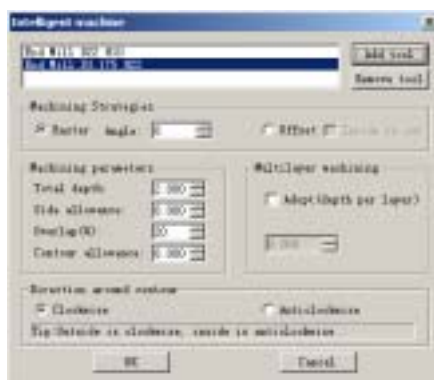

Fig. 12-54
9. Select all the symbols, and click on the shortcut icon  on Tool Path Bar or select Tool path->Intelligent machining command in the menu bar. Then the Intelligent machine dialog is displayed. (Fig. 12-54)